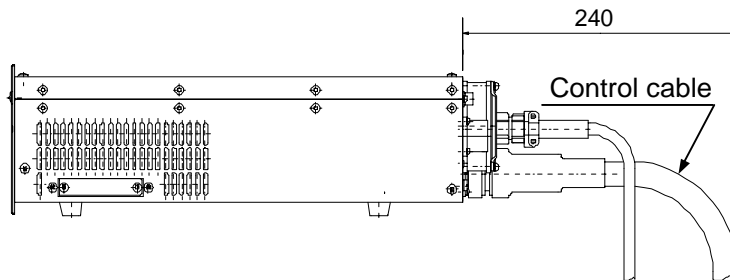

Fig.5-4 Space to connect the cable
- (4) The space required for installing the cables is shown in Fig. 5-4.
- (5) Reattach the rubber pads if necessary.